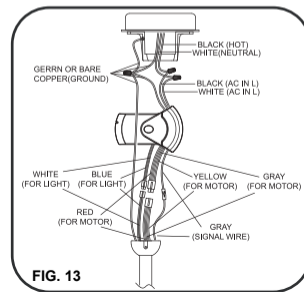

FIG. 13
**Step 1. Receiver to House Supply Wires Electrical Connections:** Connect the **WHITE** wire (Neutral) from the outlet box to the **WHITE** wire marked 'AC in N' from the receiver. Connect the **BLACK** wire (Hot) from the outlet box to the **BLACK** wire marked 'AC in L' from the receiver. Secure all wire connections with the plastic wire nuts provided. (FIG. 13)
**Step 2.** If your outlet box has a **GROUND** wire (Green or Bare Copper) connect this wire to the Hanger Ball and Hanger Bracket Ground wires. If your outlet box does not have a Ground Wire, then connect the Hanger Ball and Hanger Bracket Ground Wires together. Secure wire connection with the plastic wire connector provided. (FIG. 13)